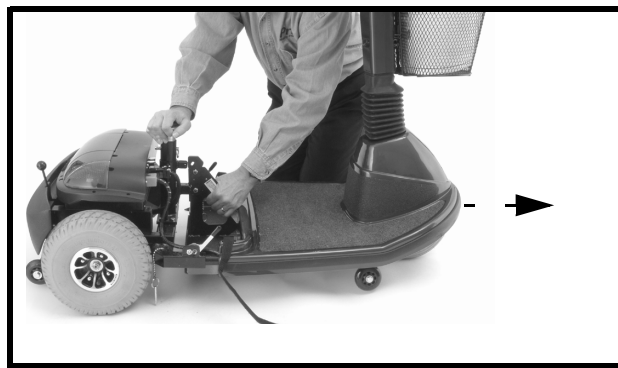

Figure 26. Frame Separation
10. Gently slide the two sections of the scooter apart. See figure 26.